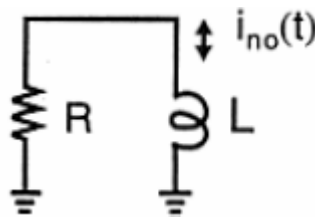

Fig. 1
- Consider an inductor of value L and an arbitrary resistor in parallel, as shown in Fig.1. Show that the current noise, $i_{no}(t)$, has a noise value given by